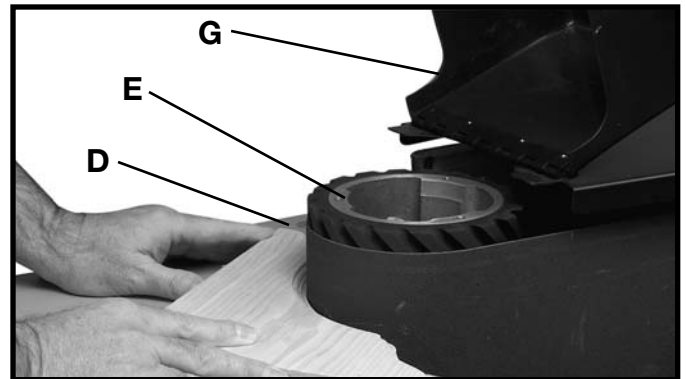

Fig. 31
4. Fig.31 illustrates the auxiliary end table (D) in position for contour sanding around the drive pulley (E). **IMPORTANT:** The dust chute (G) must be in the up position as shown.
5. Position the table (D) Fig. 31, as close as possible to the drive pulley (E) without contacting the sanding belt.